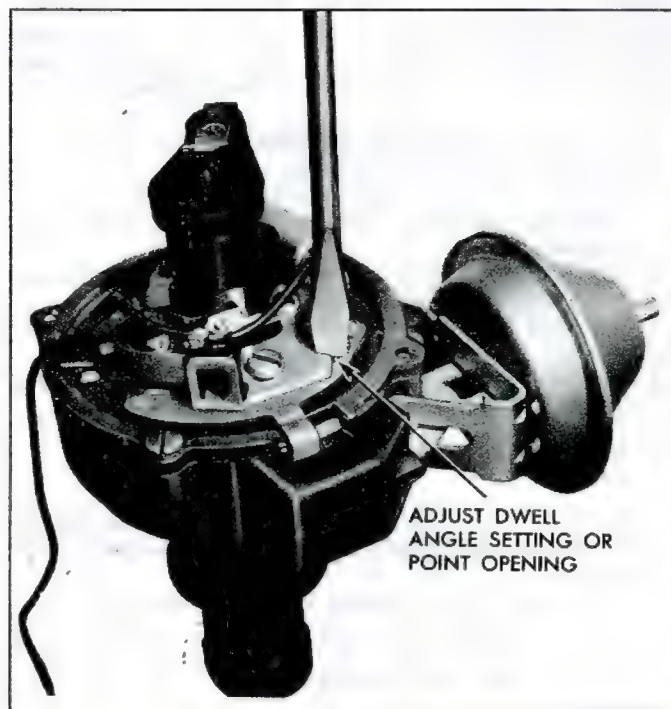

Fig. 4i—Setting Point Opening
9. Set point opening (.019" for new points) (fig. 4i).